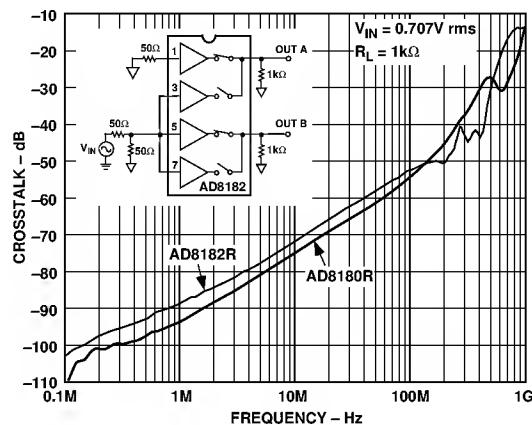

Figure 13. All-Hostile Crosstalk vs. Frequency
- ⁶Select input which is not being driven (i.e., if SELECT is logic 1, input activated is IN1); drive all other inputs with $V_{IN} = 0.707$ V rms and monitor output at $f = 5$ and 30 MHz. $R_L = 1\text{ k}\Omega$ (see Figure 13).